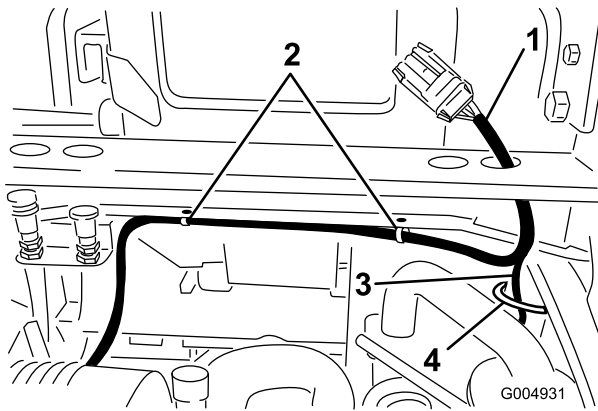

Figure 27
- 3. From the same end of the harness as the large connector, route the long cab wire (with two connectors), down the ROPS post, under the rear panel frame member and up through the hole in the bottom of the control panel (Figure 27). Secure the long wire to the lower ROPS post with a cable tie.